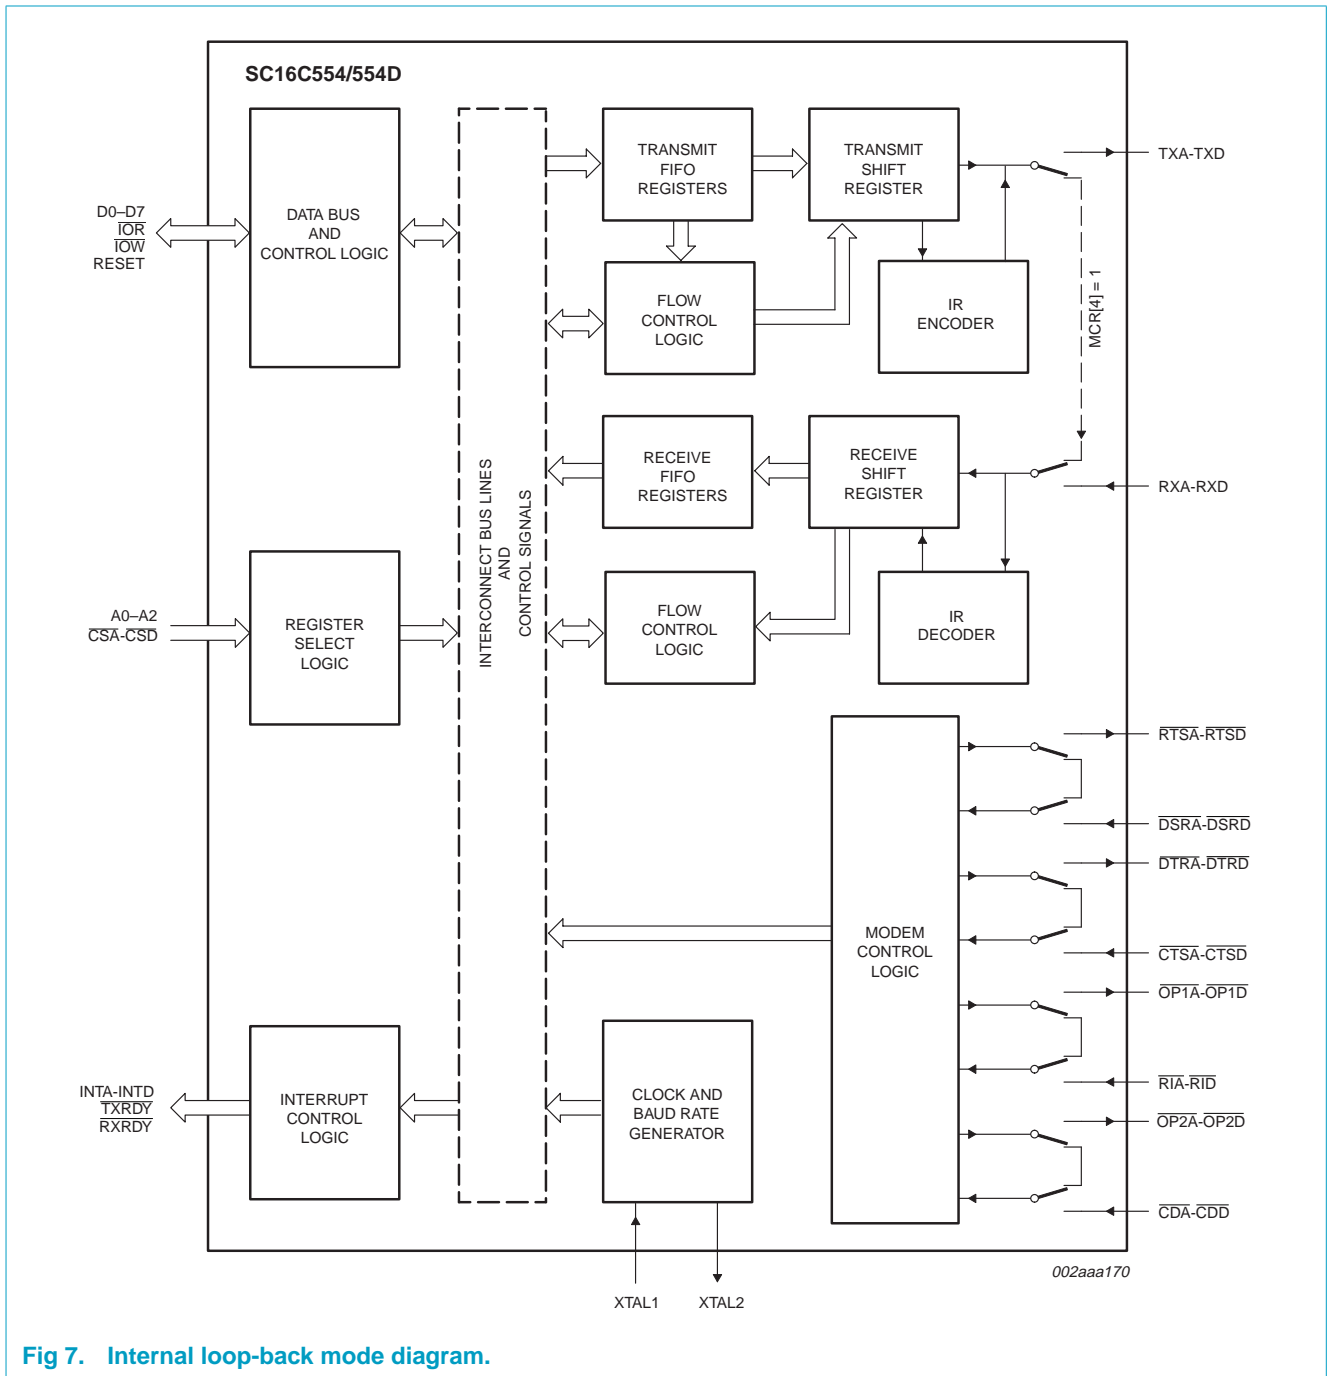

Fig 7. Internal loop-back mode diagram.
The internal loop-back capability allows on-board diagnostics. In the loop-back mode, the normal modem interface pins are disconnected and reconfigured for loop-back internally. MCR[0-3] register bits are used for controlling loop-back diagnostic testing. In the loop-back mode,  $\overline{OP1}$  and  $\overline{OP2}$  in the MCR register (bits 2-3) control the modem  $\overline{RI}$  and  $\overline{CD}$  inputs, respectively. MCR signals  $\overline{DTR}$  and  $\overline{RTS}$  (bits 0-1) are used to control the modem  $\overline{CTS}$  and  $\overline{DSR}$  inputs, respectively. The transmitter output (TX) and the receiver input (RX) are disconnected from their associated interface pins, and instead are connected together internally (see Figure 7). The  $\overline{CTS}$ ,  $\overline{DSR}$ ,  $\overline{CD}$ , and  $\overline{RI}$  are disconnected from their normal modem control input pins, and instead are connected internally to  $\overline{DTR}$ ,  $\overline{RTS}$ ,  $\overline{OP1}$  and  $\overline{OP2}$ . Loop-back test data is entered into the transmit holding register via the user data bus interface, D0-D7. The transmit UART serializes the data and passes the serial data to the receive UART via the internal loop-back connection. The receive UART converts the serial data back into parallel data that is then made available at the user data interface D0-D7. The user optionally compares the received data to the initial transmitted data for verifying error-free operation of the UART TX/RX circuits.